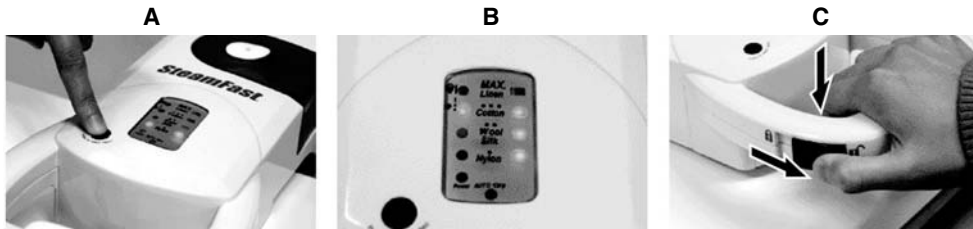

FIGURE 2
1. For first-time use, remove protective plastic cover that is shipped on electrical plug. Plug power cord into electrical outlet and set On/Off Switch to "On" (I) position. Power Indicator Light will illuminate.
2. Identify type of fabric you are going to press, and use Fabric Select Button to choose a corresponding temperature setting (FIGURE 2-A). As Fabric Select Button is pressed, the illuminated Indicator Light will cycle through four available temperature settings (NYLON, WOOL/SILK, COTTON, MAX/LINEN), as well as default power mode.
3. When one of the four temperature settings (NYLON, WOOL/SILK, COTTON, MAX/LINEN) is selected, Heating Indicator Lights will illuminate and begin blinking. Heating Indicator Lights will illuminate in sequence, beginning at the lowest indicator (green) and working up to higher indicators (yellow, orange, red) as the unit heats (FIGURE 2-B). Approximate heating times for each setting are as follows:
5. While pushing down on Pressing Plate, slide Lock to "Unlock" position to release Pressing Plate (FIGURE 2-C). Pressing Plate will spring into raised position and remain there automatically.